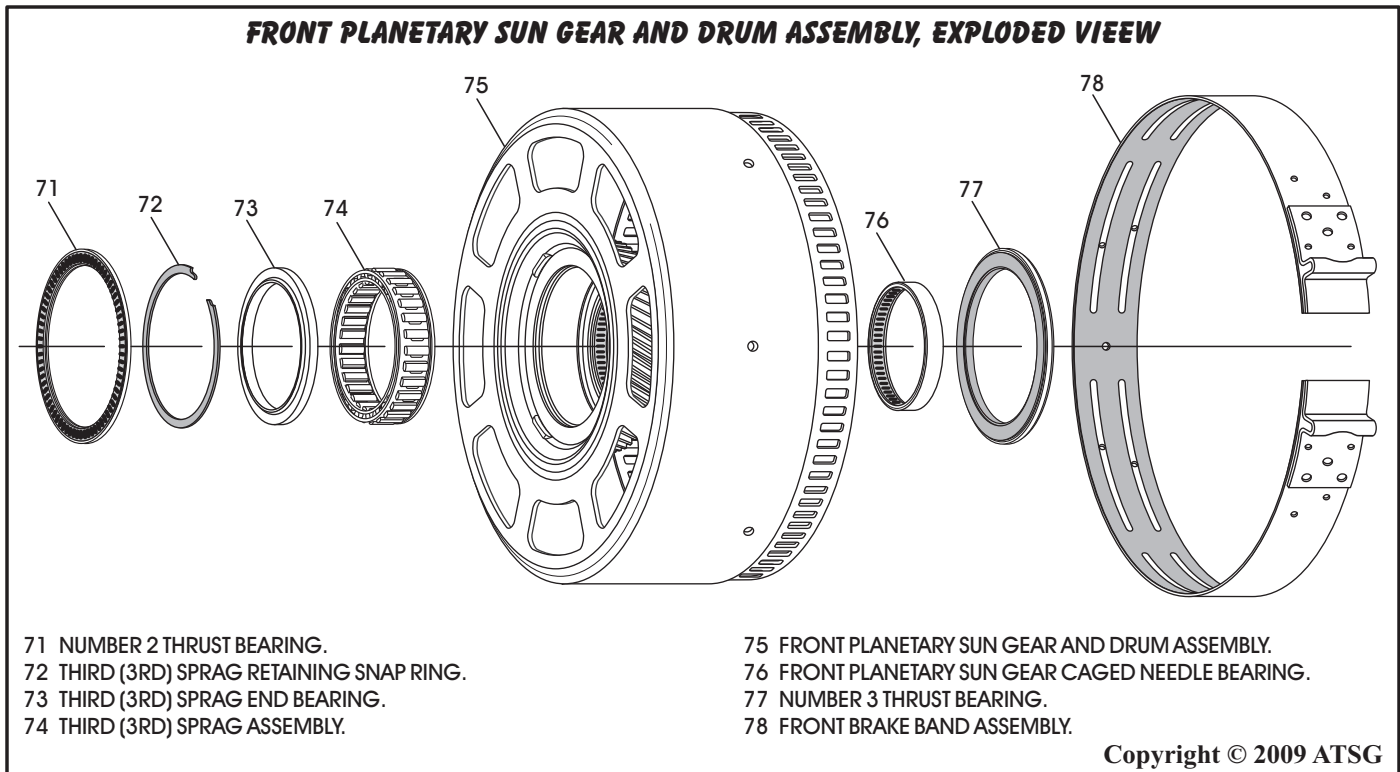

Figure 106
1. Disassemble the front planet sun gear and drum assembly using Figure 106 as a guide.